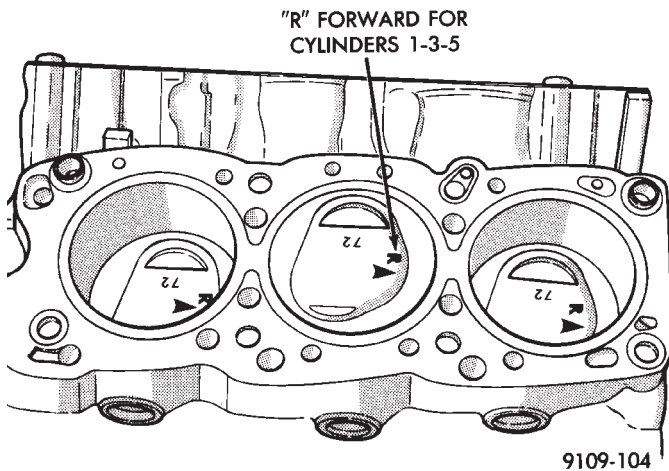

Fig. 2 Mark Pistons
(1) Mark Identify Pistons. **The pistons are not interchangeable from bank to bank** (Fig. 2).